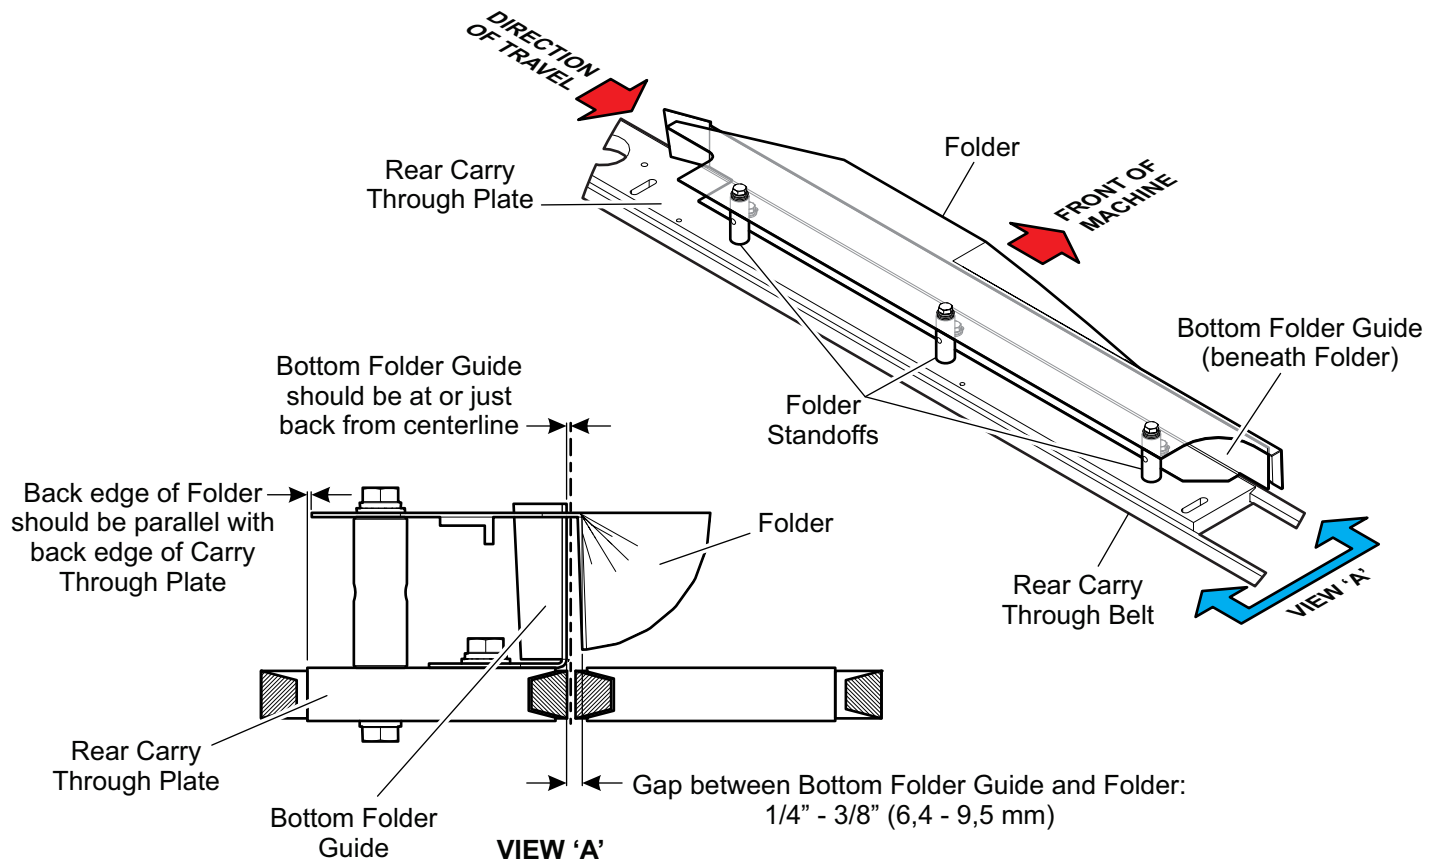

Figure 5-17: Folder and Bottom Folder Guide Positions
4. The bottom folder guide provides a surface for the rear of the bag to travel along, while the flap is heated and folded. The face of the bottom folder guide must be parallel to the face of the rear carry through belt and perpendicular to the top surface of the rear carry through plate (see Figure 5-17: Folder and Bottom Folder Guide Positions).
6. The folder does the actual bending of the flap. During this process the flap is held above the hot air manifold to melt the adhesive. For most bag types the trailing edges of the folder and bottom folder guide should have a gap between them of about $\frac{1}{4}$ to $\frac{3}{8}$ inch (6,4 to 9,5 mm) (see Figure 5-17: Folder and Bottom Folder Guide Positions).